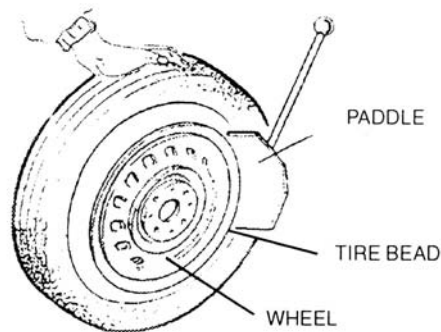

Fig.5
- 3) Open the bead breaker arm by hand by pushing it towards the outside. Place the wheel up against the Rubber Buffer. Bring the Paddle against the bead about 10mm from the edge of the rim. (see Fig.5 )
- 5) Rotate the tire slightly, and repeat the procedure around the entire circumference of the wheel rim until the bead is completely detached from the rim. (Fig.5)